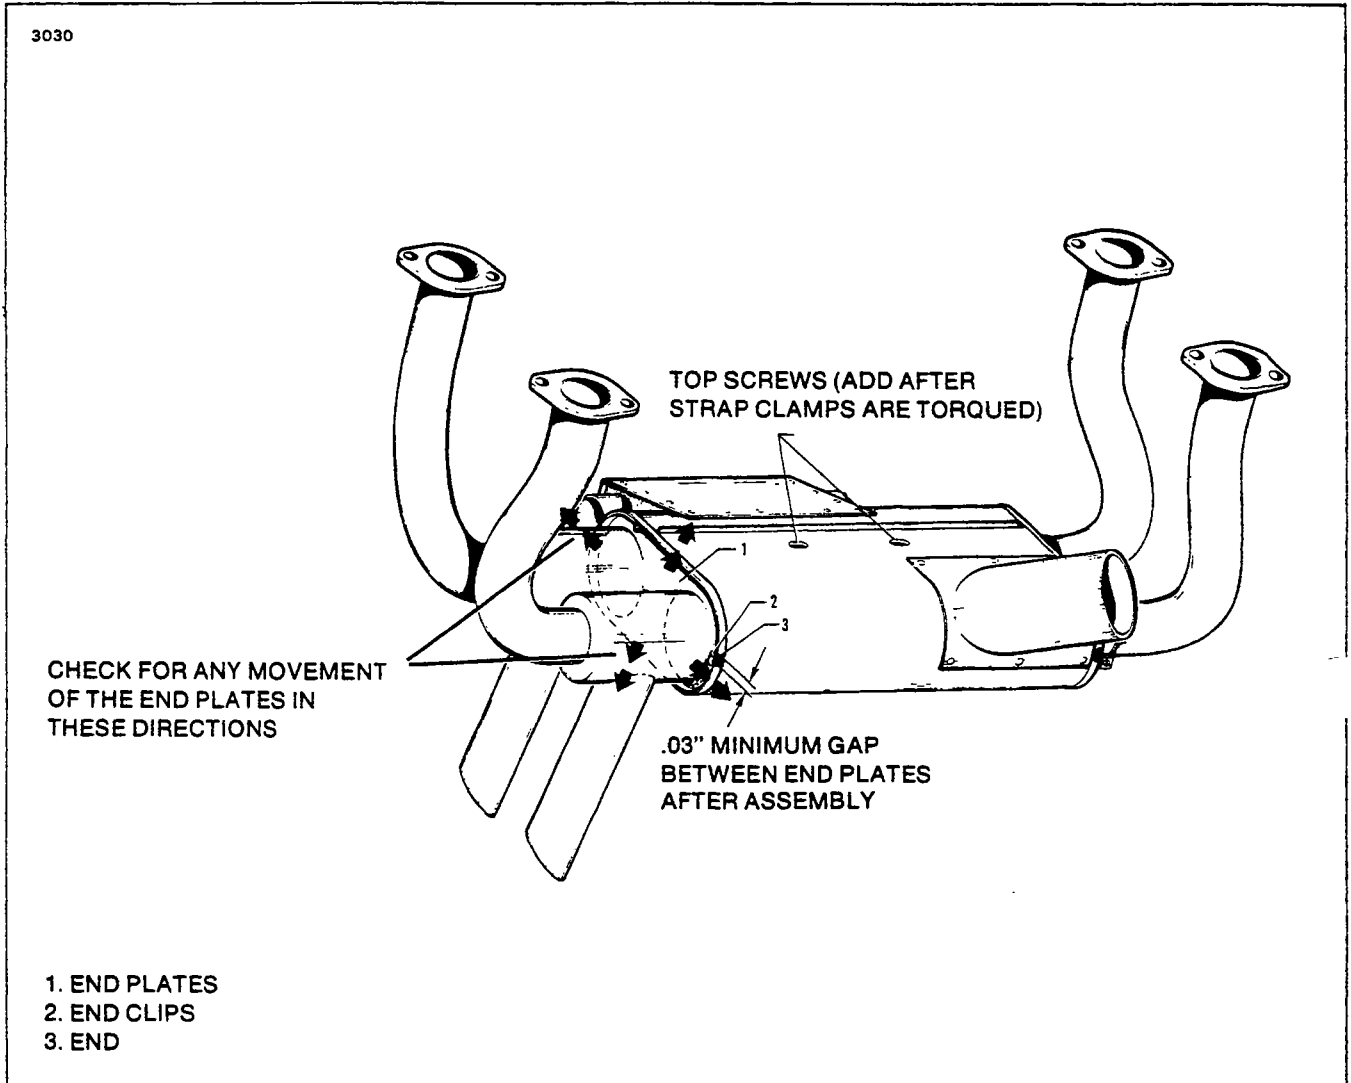

Figure 3-4. Exhaust System Installation, PA-28R-180, -200
3-10. FIELD CHECK OF PA-28R-180 and -28R-200 MUFFLER ASSEMBLIES. (Refer to Figure 3-4.)
- b. Check for any movement between the heater muff end plates and the muffler pipes in the directions shown on Figure 3-4. If there is no movement, the muffler assembly is acceptable.